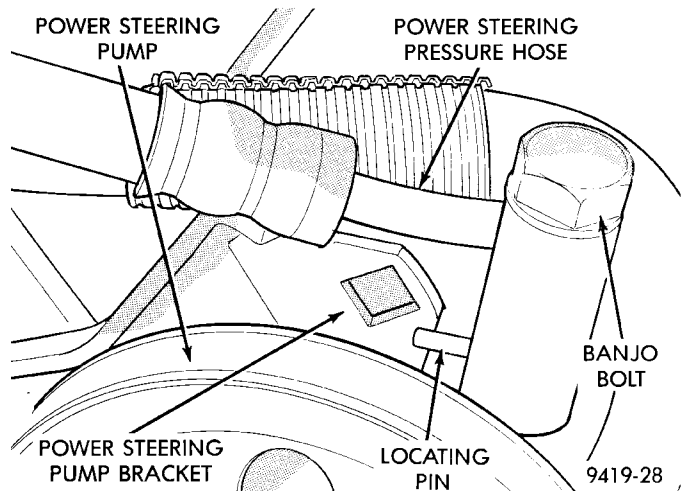

Fig. 21 Power Steering Hose Attachment To Power Steering Pump
(1) Remove battery cable from (-) negative post on battery.
(2) Remove Banjo Bolt and power steering fluid pressure hose from pressure fitting on power steering pump (Fig. 21).
(10) Lubricate both O-rings using fresh clean power steering fluid.
(11) Install banjo bolt into the power steering pressure hose banjo fitting.
(12) Attach power steering pressure hose on outlet fitting of the power steering pump (Fig. 21).
(13) Position locating pin on power steering pressure hose banjo fitting so it is against power steering pump mounting bracket (Fig. 21). While holding locating pin against power steering pump bracket, torque pump end Banjo bolt to 34 N-m (25 ft. lbs.).